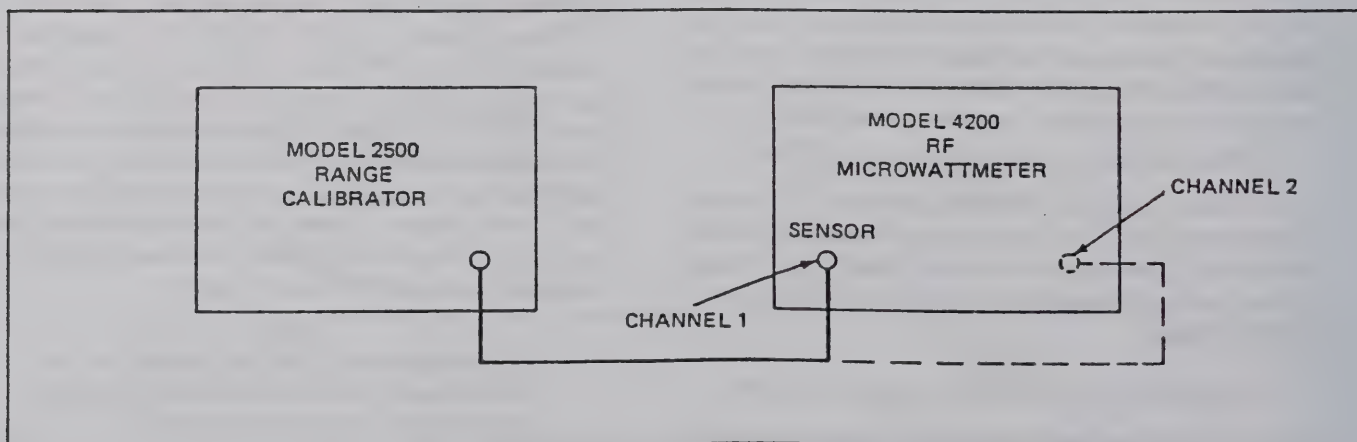

Figure 5-5 Test Setup for Input Module Offset, Chopper, and A/D Converter Adjustments.
2. Connect the equipment as shown in Figure 5-5.
2. Connect the instrument and test equipment as shown in Figure 5-5.)
1. Connect the instrument and test equipment as shown in Figure 5-5. Turn on the instrument and test equipment and allow a warmup period of at least 30 minutes.
a. Connect the instrument and test equipment as shown in Figure 5-5.